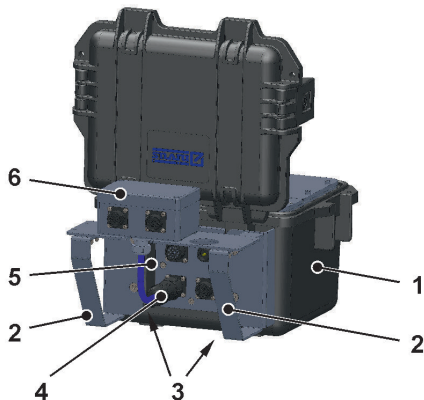

Fig. 2-1 NFM with Adapter Box
The Adapter Box either can be connected directly to the NivuFlow Mobile by using the hoop guards (Fig. 2-1 no. 2) or can be fastened/put on another place. The Adapter Box shall be secured separately as soon as it is not fastened on the NFM in case of flood events occurring.
1. Remove the rubber buffers (not depicted) from the reverse side of the NivuFlow Mobile (Fig. 2-1 no. 1). Both fastening plates (now loose, Fig. 2-1 no. 3) within the screw channels (Fig. 2-1 no. 5) are already required for the next step.
2. Fasten the hoop guards (Fig. 2-1 no. 2) on the NivuFlow Mobile by using the accompanying screws.
3. Fasten the Adapter Box (Fig. 2-1 no. 6) on the hoop guards by using the accompanying screws.
5. Plug (Fig. 2-1 no. 4) the connection cable from the Adapter Box into the v2/h socket on the NivuFlow Mobile.